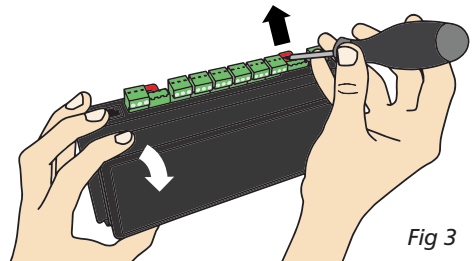

Fig 3
### D - Removal from DIN Rail (Fig 3)
- (1) Power down the unit
- (2) Unplug the 'Input 4' and 'Port 1' connectors from the top of the Zen (the DIN clips are behind these terminals)
- (3) Gently pull the unit away from the rail while levering one of the clips upward with a screwdriver
- (4) When one side is loosened, hold it slightly away from the rail to prevent the clip from engaging again (pictured in Fig 3). Meanwhile, lever the second clip upward as you did with the first.